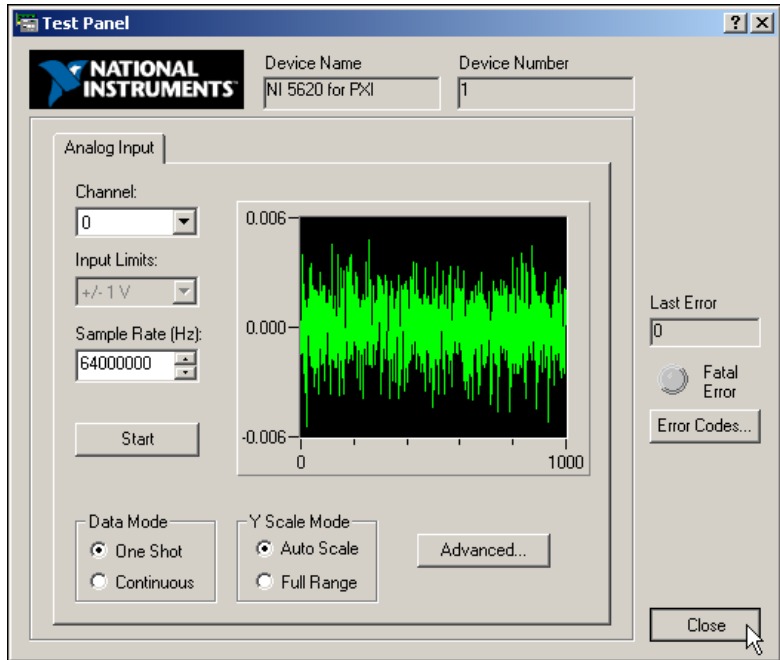

Figure B-4. Click Close to Stop the NI 5620 Test Panel
- When the NI 5620 test panel has run successfully, click **Close** as shown in Figure B-4.